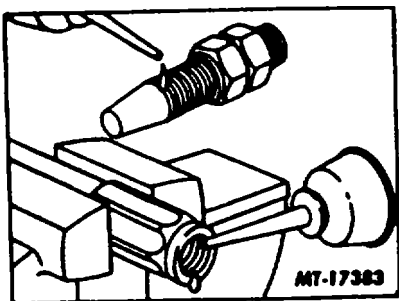

Fig. 4
Lubricate O-rings, O-ring sealing surfaces and stem with Item 3 of LUBRICANT SPECIFICATIONS (refer to Fig. 4 for numbers in parenthesis).
7. Reposition hose and socket in the vise as shown in Fig. 4. Lubricate hose socket and fitting threads.